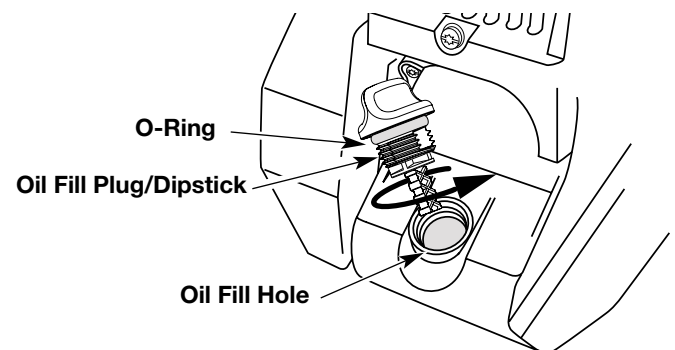

Fig. 18
- Remove the oil plug / dipstick from the crankcase (Fig. 18).